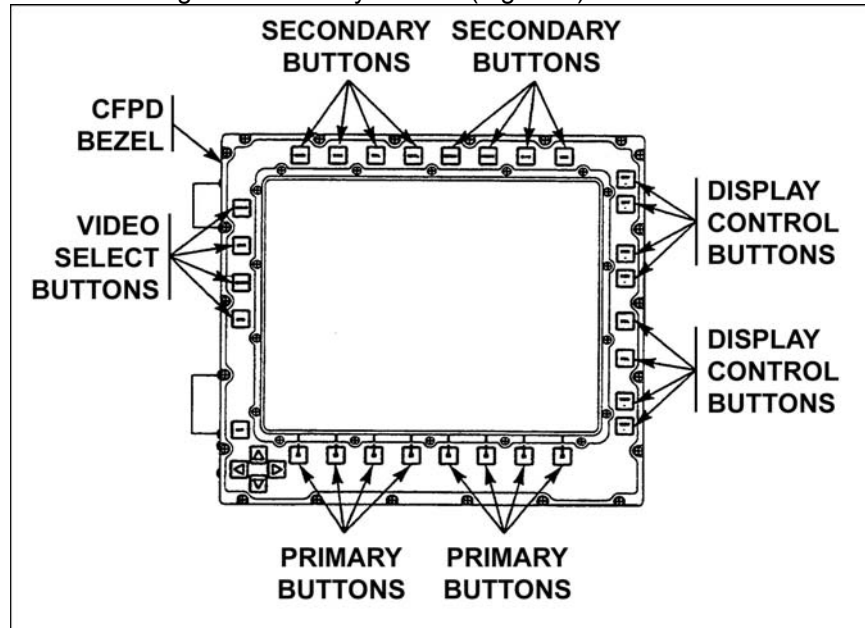

Figure 2. Secondary buttons.
- (c) Repeat steps (1) and/or (2) to achieve the desired viewing angle.
- b. Adjust the CTD using the secondary buttons (Figure 2).